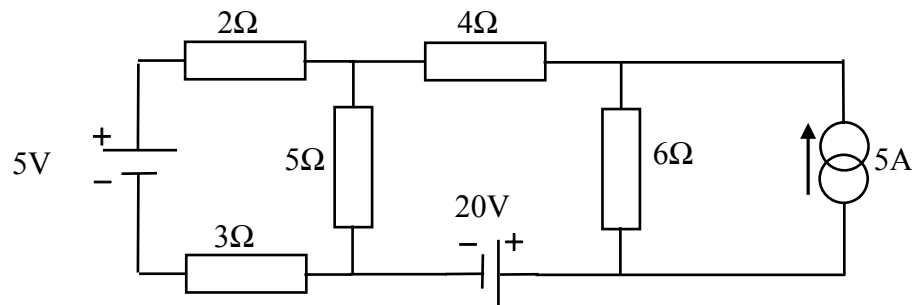

Figure 1.2
- b. A constant current source of 5A is added to the network in parallel with the 6Ω resistor, as shown in Figure 1.2. Calculate the new current through the 5Ω resistor. (4)